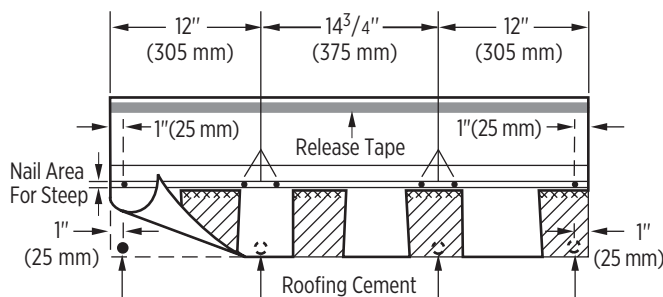

Figure 11-5: Use six nails and four spots of asphalt roofing cement on steep slopes.
**IMPORTANT:** When "six nailing" a full shingle, follow the nail pattern shown in figure 11-5, nails are placed in the 1-1/2" nailable area.